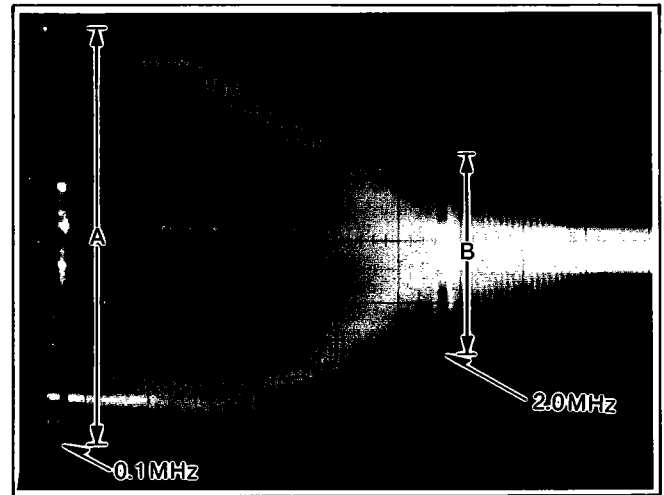

Figure E14 SP MODE
4. Adjust VR3305 until the B level (2MHz) is -1 ± 3 dB (60 to 125 percent) of the A level (0.1MHz) as shown in Figure E14.